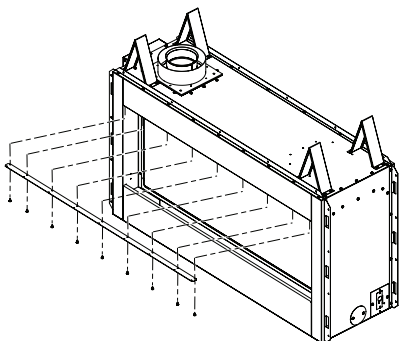

Figure 2 - Removing for See-Thru Applications
2. Unscrew mount bracket from top face as shown in Figure 2. Discard mounting bracket and replace screws.